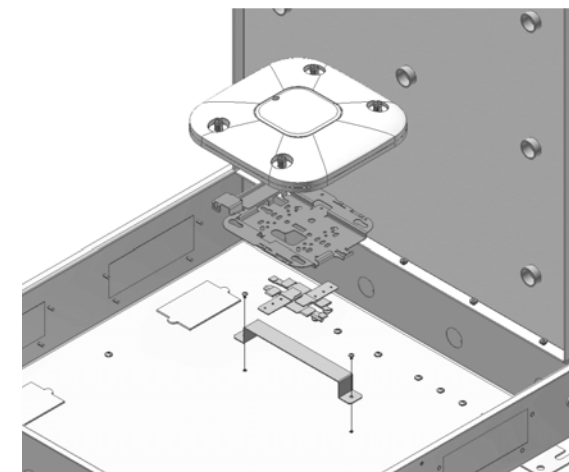

Figure 4
Step 4 – **(Only for Model 1074-ANT7)** If attaching wireless access points or cellular devices use the optional T-Bar Bracket (Oberon P/N 1972 not included). Mount the access point to the bracket per the manufacturer's directions. Remove hole plugs to attach antennas to the door of the enclosure (Figure 4).